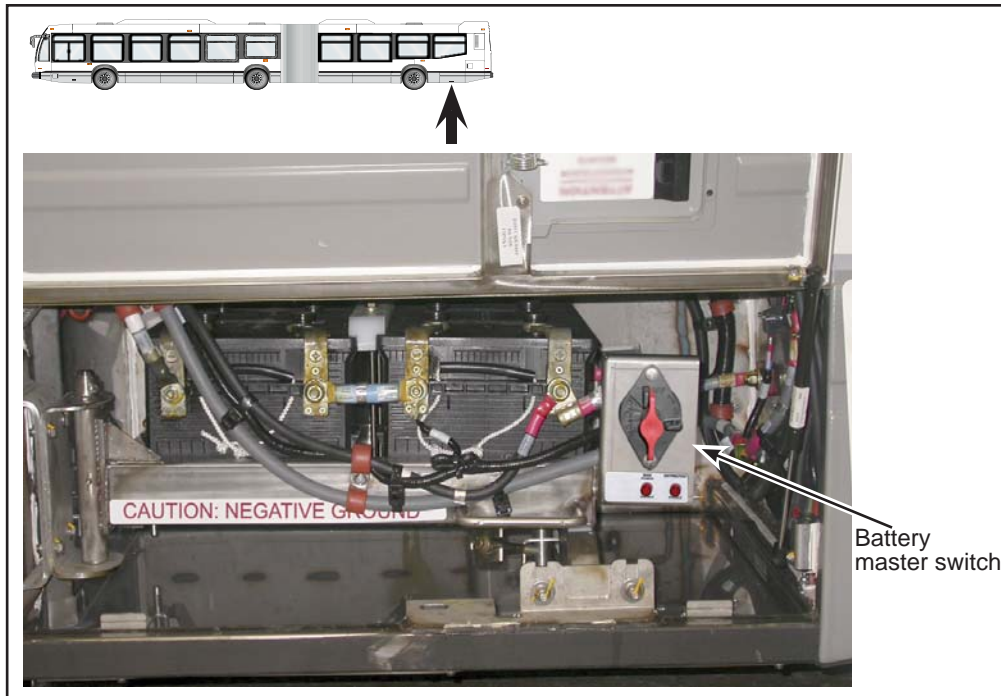

Figure 1 - Battery Master Switch Location
1.1. Turn off the battery master switch located in the battery compartment. See Figure 1.